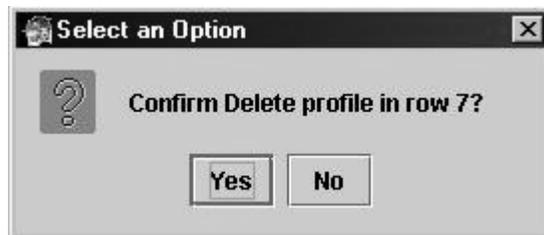

Figure 5-11: Confirm ATM Profile Delete Dialog
2. Click **DELETE**. The Select an Option box displays. See Figure 5-11.